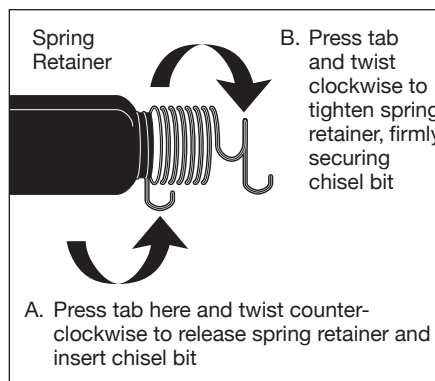

Figure 2 - Spring retainer
The spring retainer holds the hammer in place. The retainer must be **securely** attached (See Figure 2). The retainer is a normal wear item and should be replaced when worn. Replace with MP2896 (2) piece hammer spring set. The retainer unscrews for easy hammer insertion.